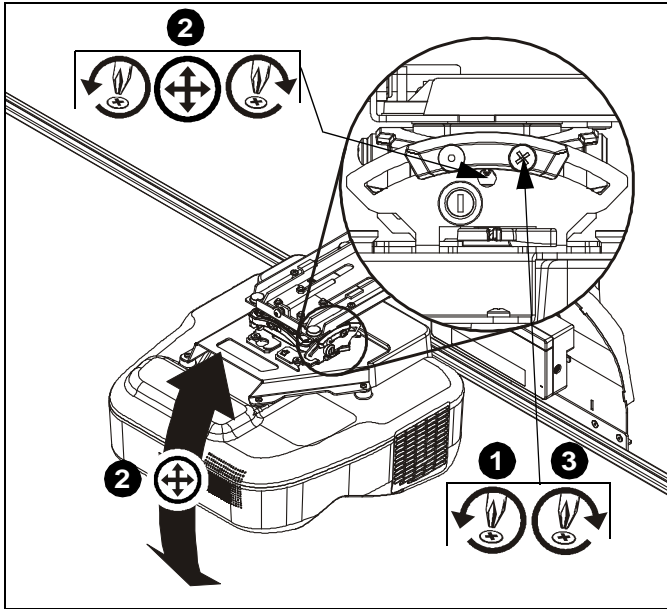

Figure 15
1. Loosen pitch adjustment locking screw using a #2 Phillips screwdriver. (See Figure 15)